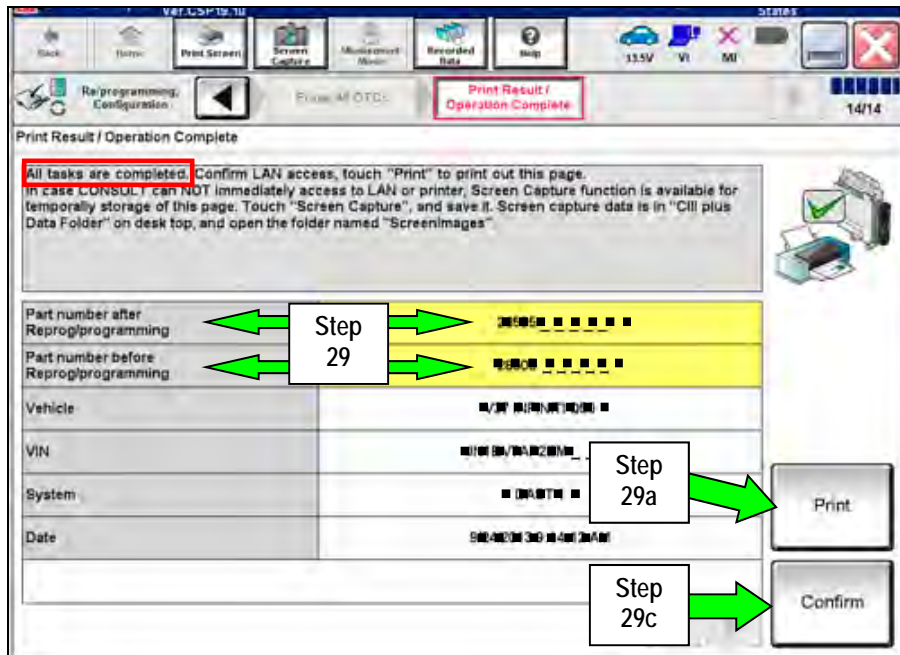

Figure 24
- a. Print a copy of the screen in Figure 24 by selecting Print.